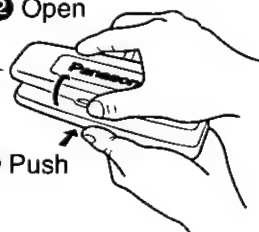

Fig. 6
- ④ As shown in Fig. 6, gently push the lower side of the case and open its cover. Keep the removable face plate in the case. Then you can safely take the plate with you.
⑦ Removable face plate case
② Open
① Push